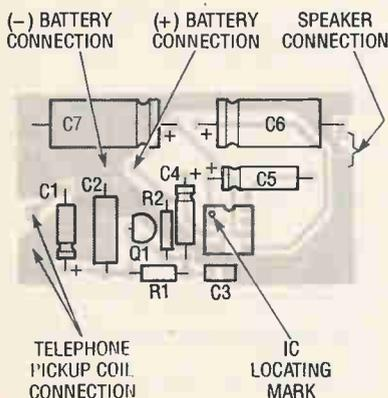

Figure 2. The Parts Layout for the Telephone Amplifier.
1. Assemble the phone amplifier according to the parts-placement diagram in Figure 2, using the Parts List and the schematic to help you. Make sure you have all the necessary parts on hand before beginning construction, and use only 60/40 rosin-core solder.